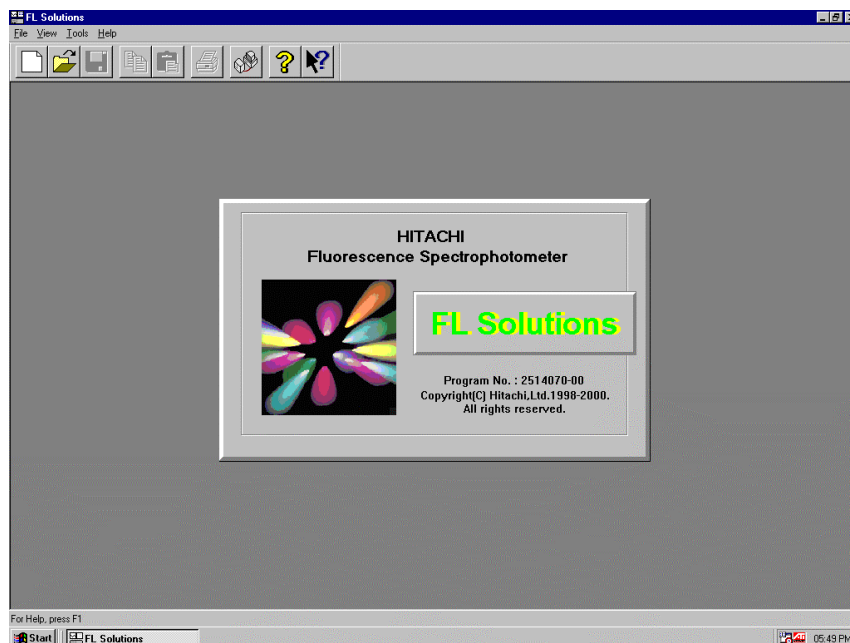

Fig. 1-7
- (4) The fluorescence spectrophotometer connected to the communication COM port of computer is now recognized and the window shown in Fig. 1-7 is displayed. Then, the spectrophotometer is initialized.